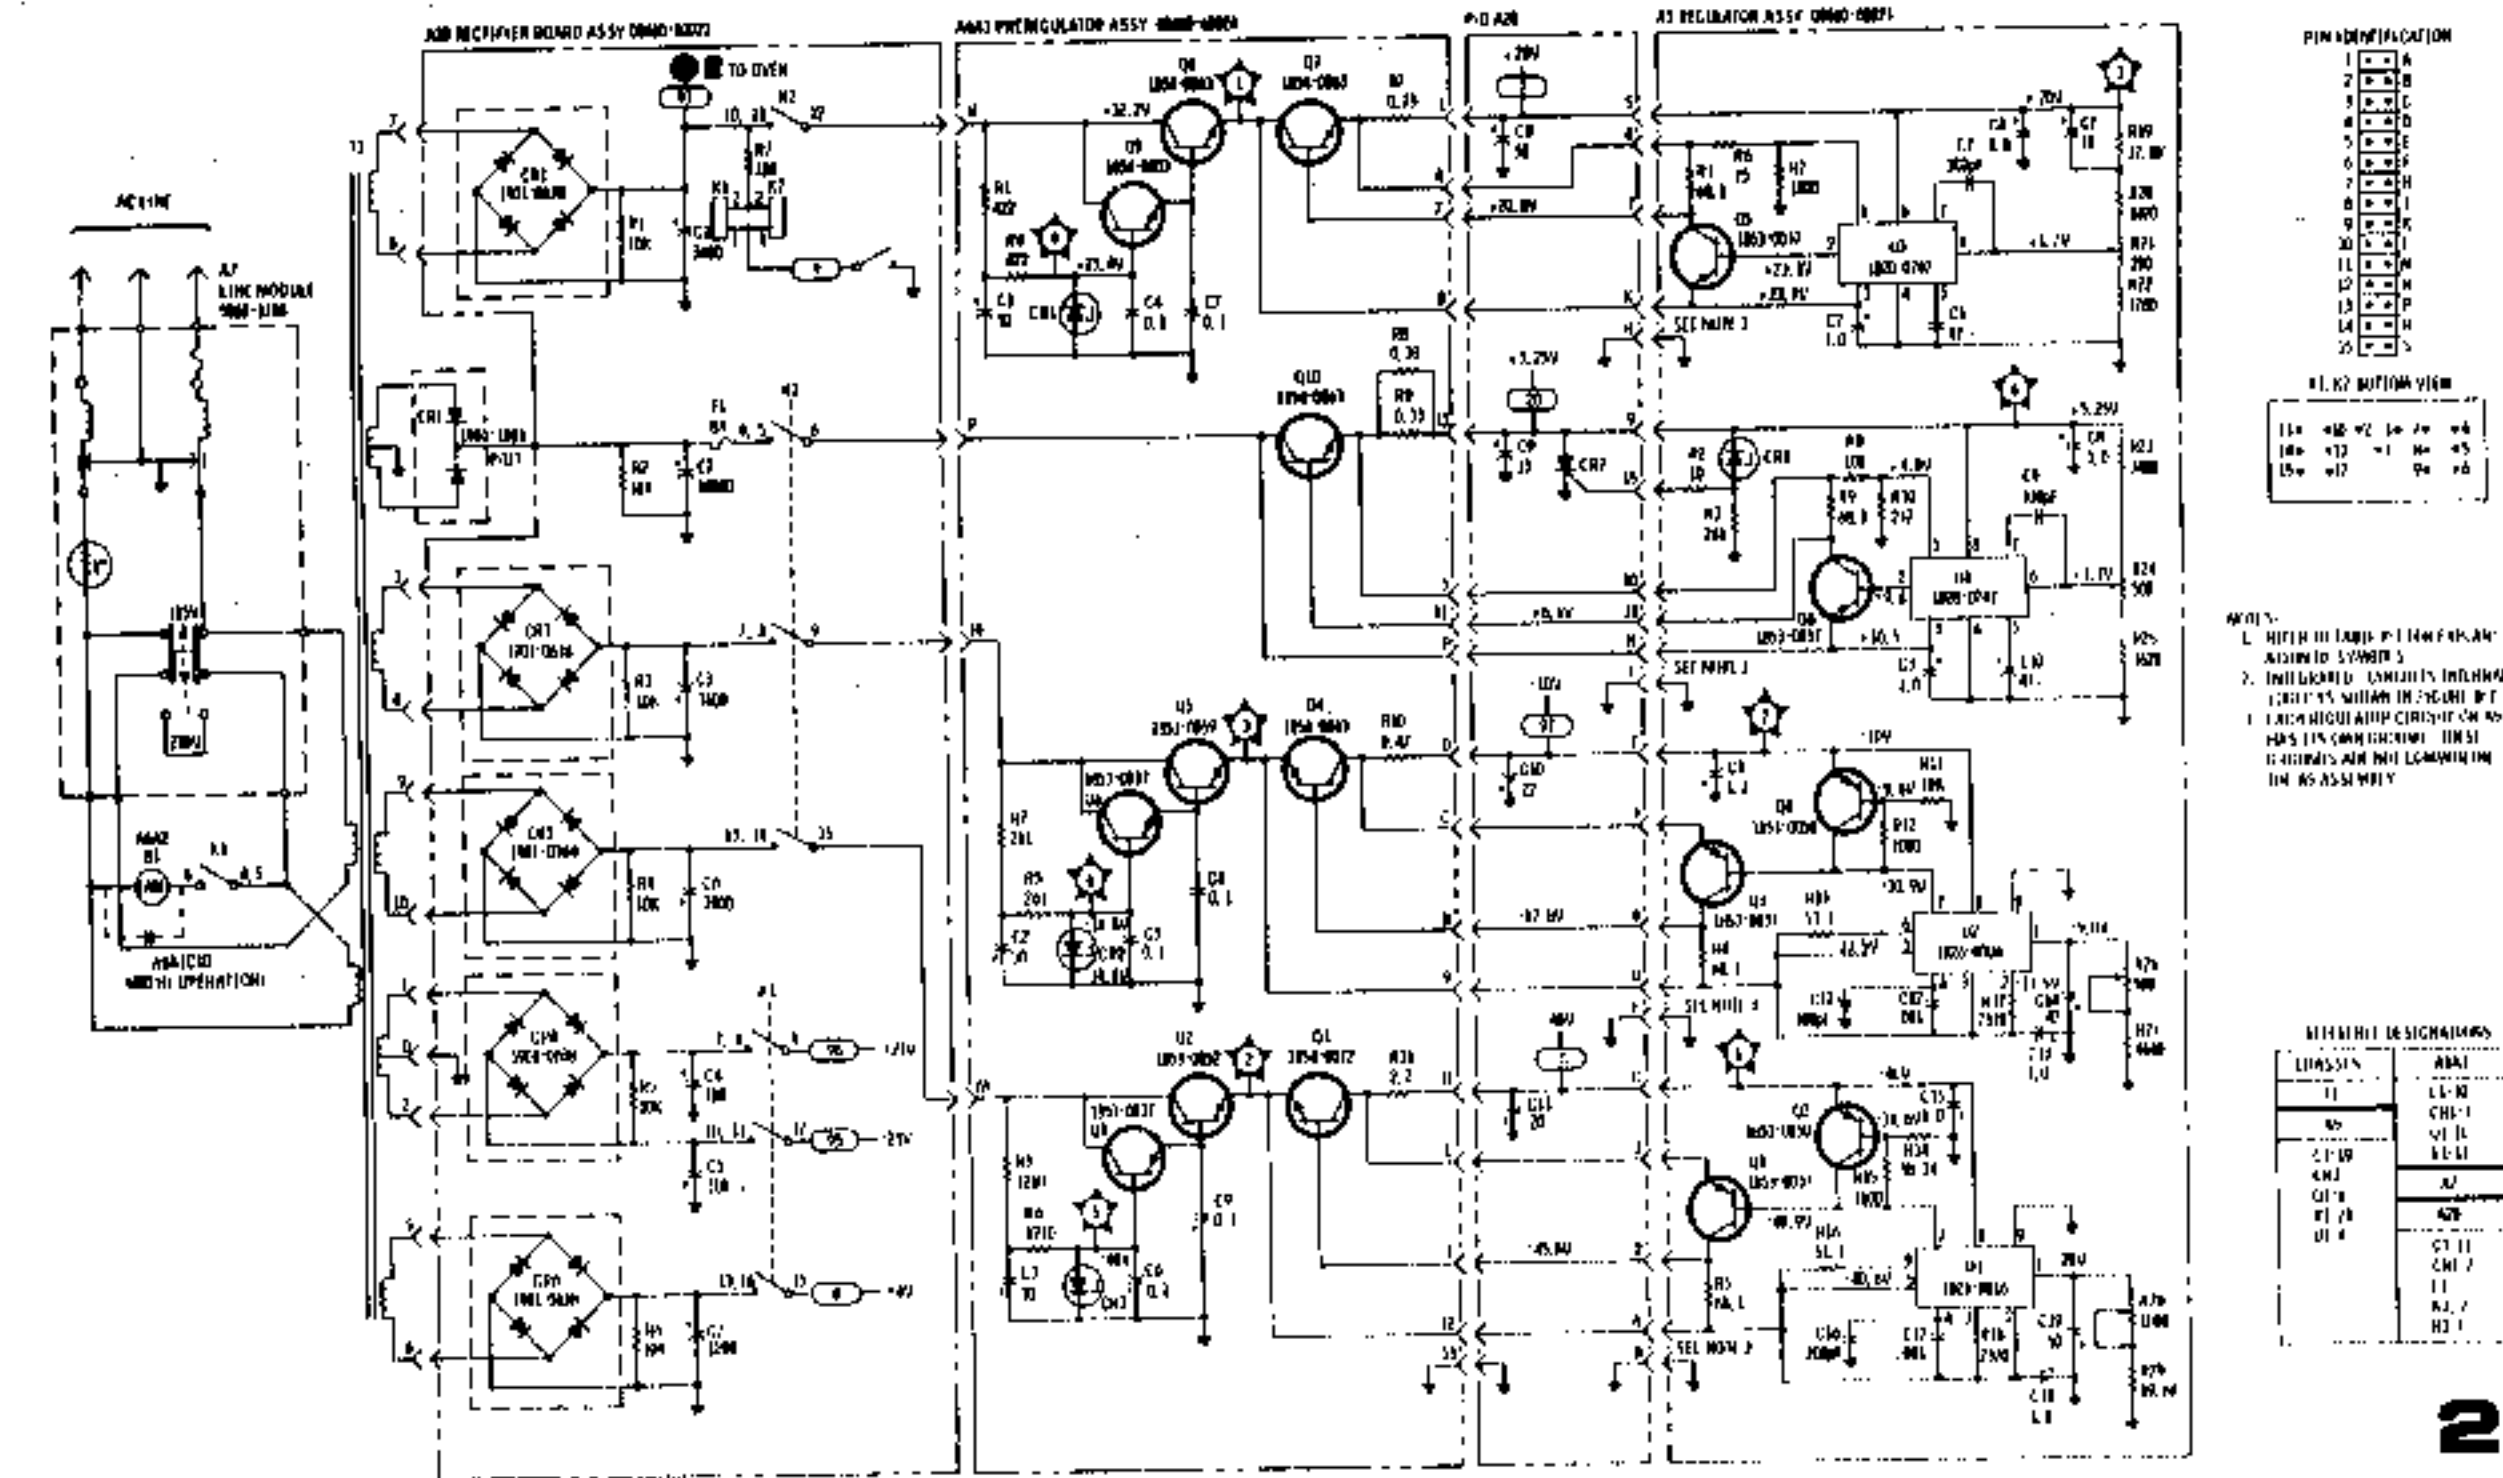

Figure 7-3. Power Supply Schematic (Service Sheet 24) (Change W)
- Change the diagram as shown by the partial schematic in Figure 7-3.